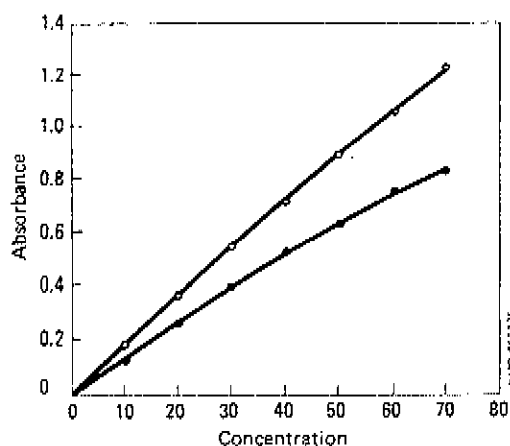

Fig. 5
- (1) If possible use the type of filter specified in the method. If this filter is not provided, select a similar one from those available. Choose one which gives the largest absorbance reading with the solutions to be measured, and which gives the most linear calibration curve (see Fig. 5).